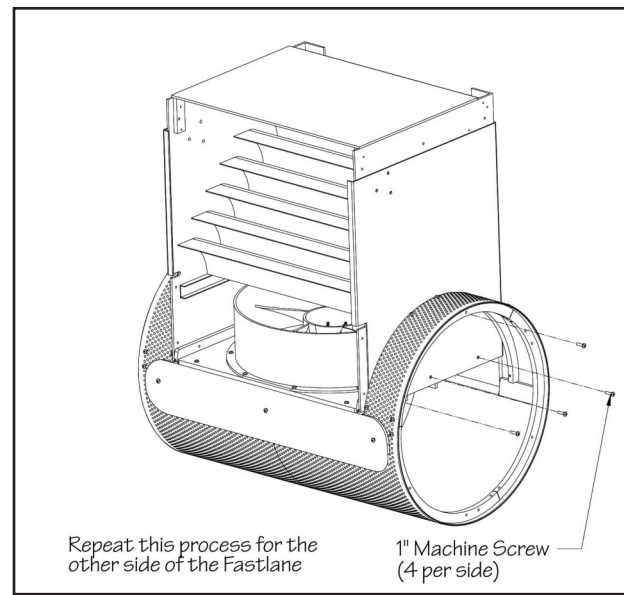

Fig. 6.4B
- 6.6 Use the provided stainless steel machine screws to attach the upper housing to the base. There will be 4 screws per side (total of 8). On each side of the housing, there will be 3 screws securing the upper housing to PVC motor mount support and 1 screw attaching the stainless steel reinforcing support to the housing just above the 3 previous screws (Fig 6.4B).